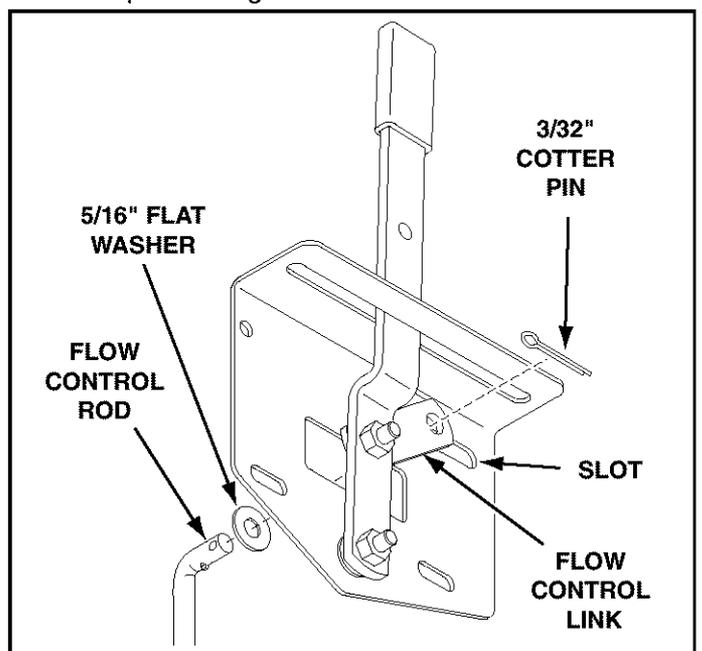

FIGURE 8
- Place a 5/16" flat washer onto the end of the flow control rod. Insert the end of the rod through the slot in the flow control mounting bracket and through the hole in the flow control link. Secure with a 3/32" x 3/4" cotter pin. See figure 8.